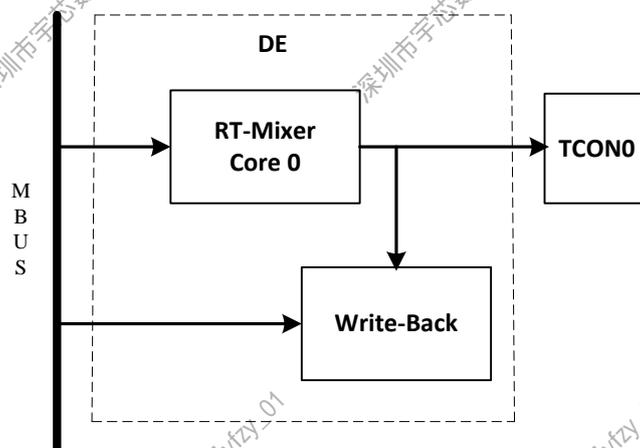

Figure 4-1. DE Block Diagram
The Display Engine (DE) is a hardware composer to transfer image layers from a local bus or a video buffer to the LCD interface. The DE supports four overlay windows to blend, and supports image post-processing in the video channel. The block diagram of DE is shown in Figure 4-1.